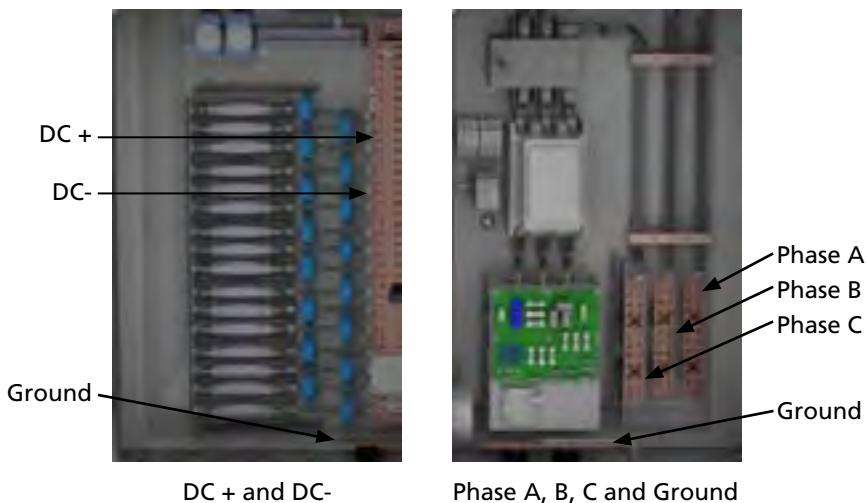

Figure 4-14 DC and Phase Inverter Connections
5. Connect the wire from Phase A of the AC panel to the terminal marked ‘PHASE A’ on the AC terminal inside the inverter. Refer to Figure 4-14.
6. Connect the wire from Phase B of the AC panel to the terminal marked ‘PHASE B’ on the AC terminal inside the inverter. Refer to Figure 4-14.
7. Connect the wire from Phase C of the AC panel to the terminal marked ‘PHASE C’ on the AC terminal inside the inverter. Refer to Figure 4-14.
The three DC busbars, positive, negative and ground are located in the lower left of the DC panel. Refer to Figure 4-14. The positive and negative bars are vertically mounted and the ground bar is horizontally mounted at the bottom of the cabinet. The positive and negative busbars have 32 rows of two 3/8" diameter holes spaced 1" apart vertically. The ground bar has 12 rows of two 3/8" diameter holes spaced 1" apart. See *Appendix D, Table D-10* for wire sizing limits for inverters with an optional fused subcombiner.
Follow these steps to wire the DC inputs from the PV panels to the inverter. These instructions are for a negatively grounded array. For a positively grounded array, use the opposite terminals. Refer to Figure 4-14.
6. Connect positive DC lead(s) to the positive terminals located on the busbar or fuse holder as applicable. Refer to Figure 4-14. Use Grade 8 3/8" hardware to secure the lugs of the incoming DC cables to the busbar. The DC landing torque spec is 40 ft-lbs.
7. Connect negative DC lead(s) directly to the negative terminals located on the busbar or fusing as shown in Figure 4-14. Use Grade 8 3/8" hardware to secure the lugs of the incoming DC cables to the busbar. The DC landing torque specification is 40 ft-lbs.